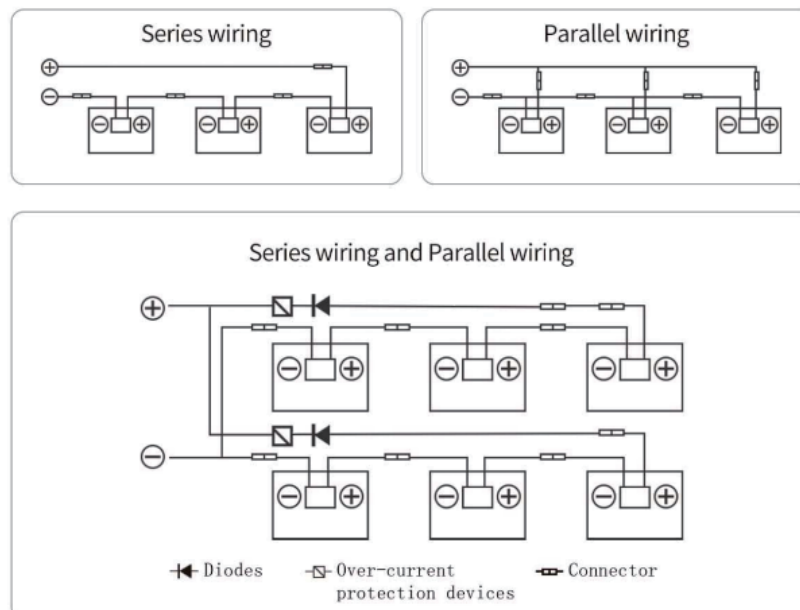

Figure 3
- Voltages are additive when modules are connected directly in series, and modules currents are additive when modules are connected in parallel, as illustrated in Figure 3. Modules with different electrical characteristics must not be connected directly in series. If quantity of parallel connection is more than 2, there must be an overcurrent protection device on each string of module.